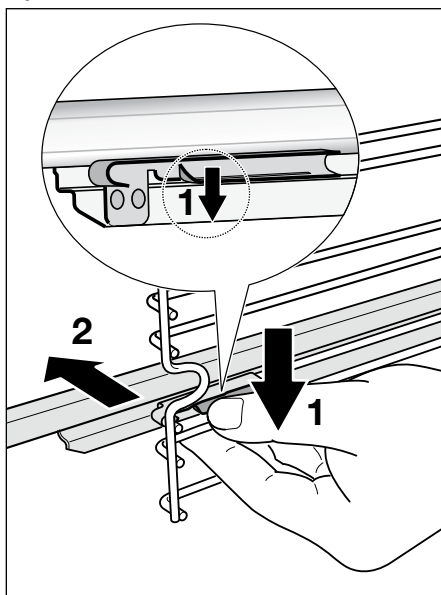

Fig.35a Removing the sliding shelf supports
- 3 Find the safety locks. These are the tabs that clip over the wire of the side rack (arrow 1 in Fig. 35a).
- 4 Pull the safety locks away from the wire to release the wire (arrow 2 in Fig. 35a).